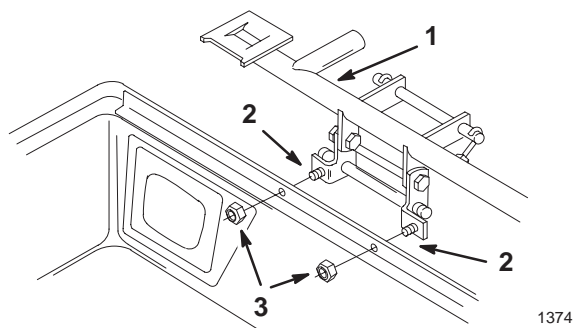

Figure 14
5. Mount the frame hinge to the cover with the 2 bolts (1/4 inch) attached to it. Secure it with 2 locknuts (1/4 inch) (Fig. 14).